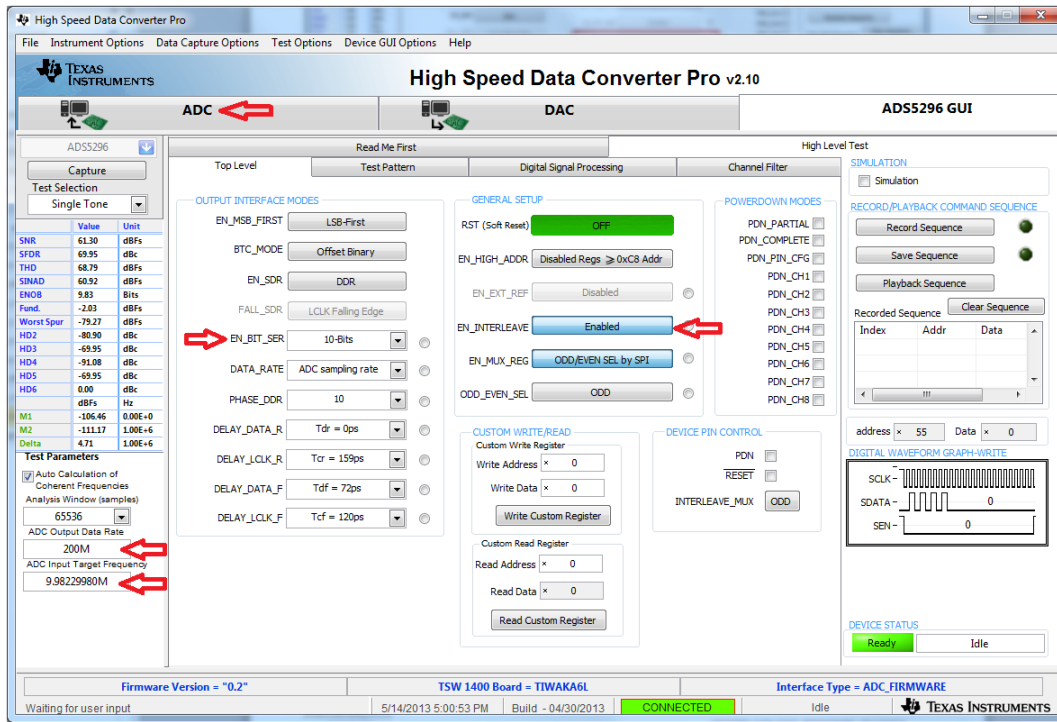

Figure 48. Quad-Interleaving Mode GUI Setup
2. From the *ADS5296 GUI*, *Top Level* tab, make the following changes as shown in Figure 48. With this configuration the ADS5296A will be sampling channel 1 since the **ODD_EVEN_SEL** is set to **ODD** in the software GUI.